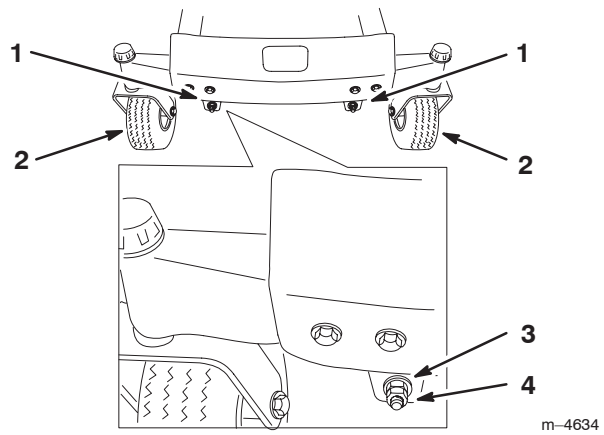

Figure 41
10. To adjust the front-to-rear blade slope, remove the locknuts and then rotate the adjustment nuts in the front of the mower (Fig. 41).
12. After adjusting both adjustment nuts evenly, check the front-to-rear slope again. Continue adjusting the nuts until the front blade tip is 1/16–5/16 inch (1.6–7.9 mm) lower than the rear blade tip (Fig. 41).
Note: After adjusting the adjustment nuts, make sure there is **no slack** in either support rod (Fig. 43). Tighten either one to remove the slack (Fig. 41).